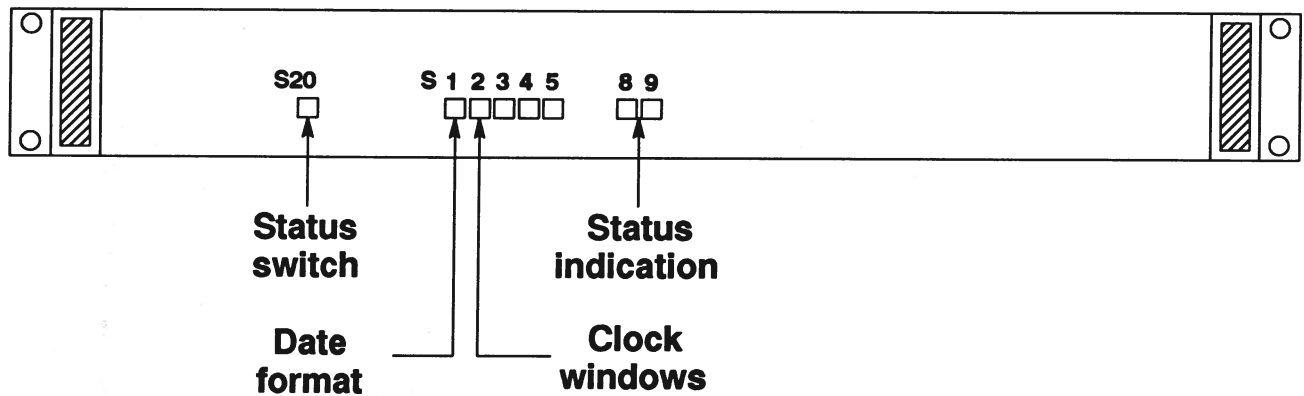

Fig. 6-1 Special configuration, front panel removed
- Press S1 to select 'date format' mode (see fig. 6-1).
- Press S2 to select 'Clock window' mode (see fig. 6-1).